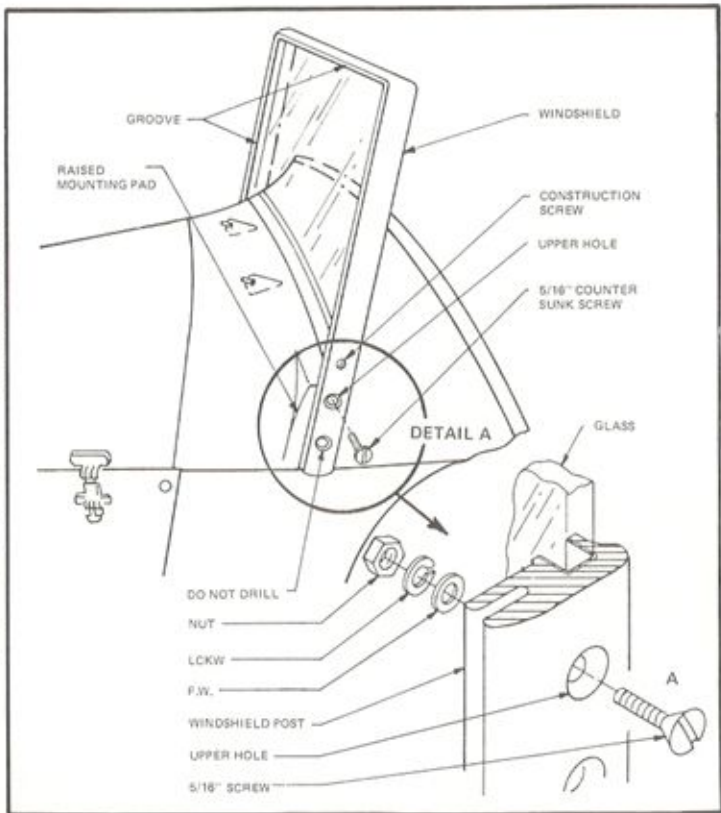

Figure 69
WINDSHIELD (Refer to Figure 69)
- Slide windshield over body, centering each side post on the raised mounting pads on the body sides. (Loosen the construction screw on each side of the frame if necessary.) Angle the windshield back so that the angle of the frame matches that of the forward edge of the mounting pad. (Figure 69) The groove in the edge of the windshield must face forward to allow installation of the convertible top.